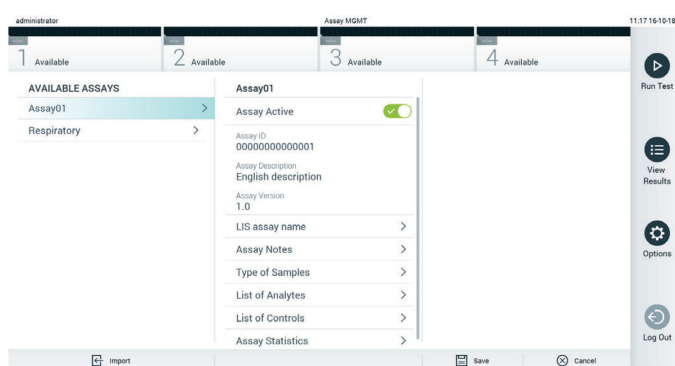

Figure 56. Activating the assay.
7. The assay becomes active by selecting Assay Active (Figure 56).